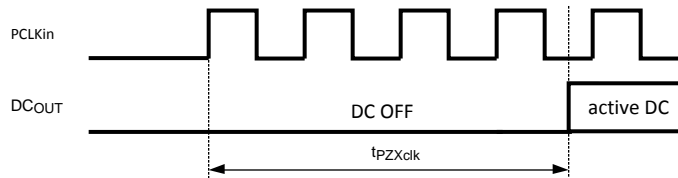
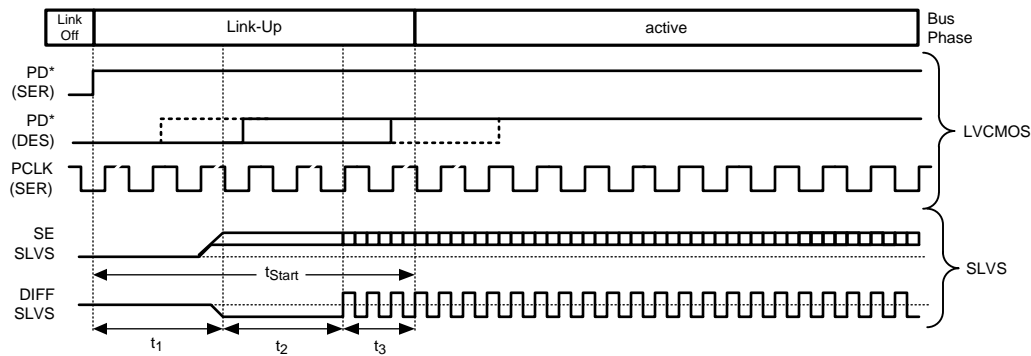

Figure 4. Stop Pixel Clock (PCLK) Power Up
Figure 8. MPL-2 - LM4312 Link Up Timing
| $t_{PZclk}$                    | Enable Time - Clock Start           | PCLK to DC OUT <a href="#">Figure 4</a> , <a href="#">Figure 8</a> |     | See (5) |     |             |
(1) Typical values are given for  $V_{DD} = 1.8$ V and  $T_A = 25^\circ\text{C}$ .
(2) 1 UI is the serial data DD pulse width = 1 / 12xPCLK (18-bit mode), 1 UI is the serial data DD pulse width = 1 / 16xPCLK (24-bit mode)
(3) Specification is ensured by design or characterization
(4) MPL-2 serial link transition time is measured from 20% to 80 %.
(5) Enable Time is a complete MPL-2 start up  $t_1+t_2+t_3$ . See also Figure 8.
Link-Up is shown in Figure 8. The DC and DDn signals are shown both as single-ended and differential waveforms.